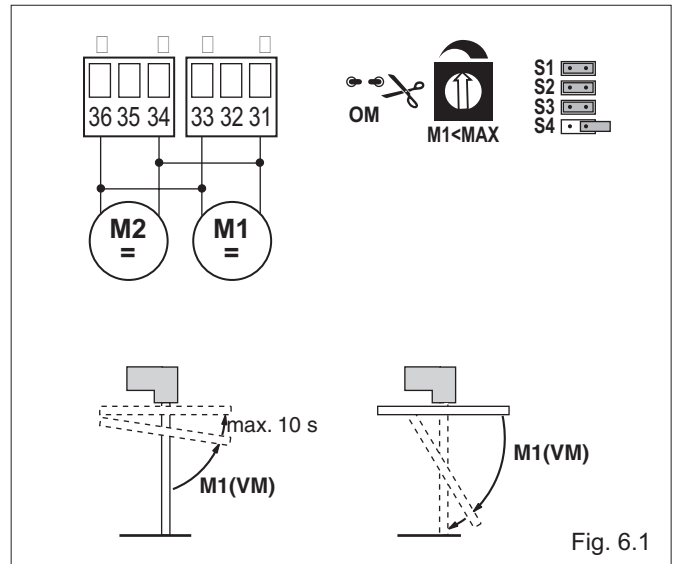

Fig. 6.1
**(Fig. 6.1) Use without limit switches**